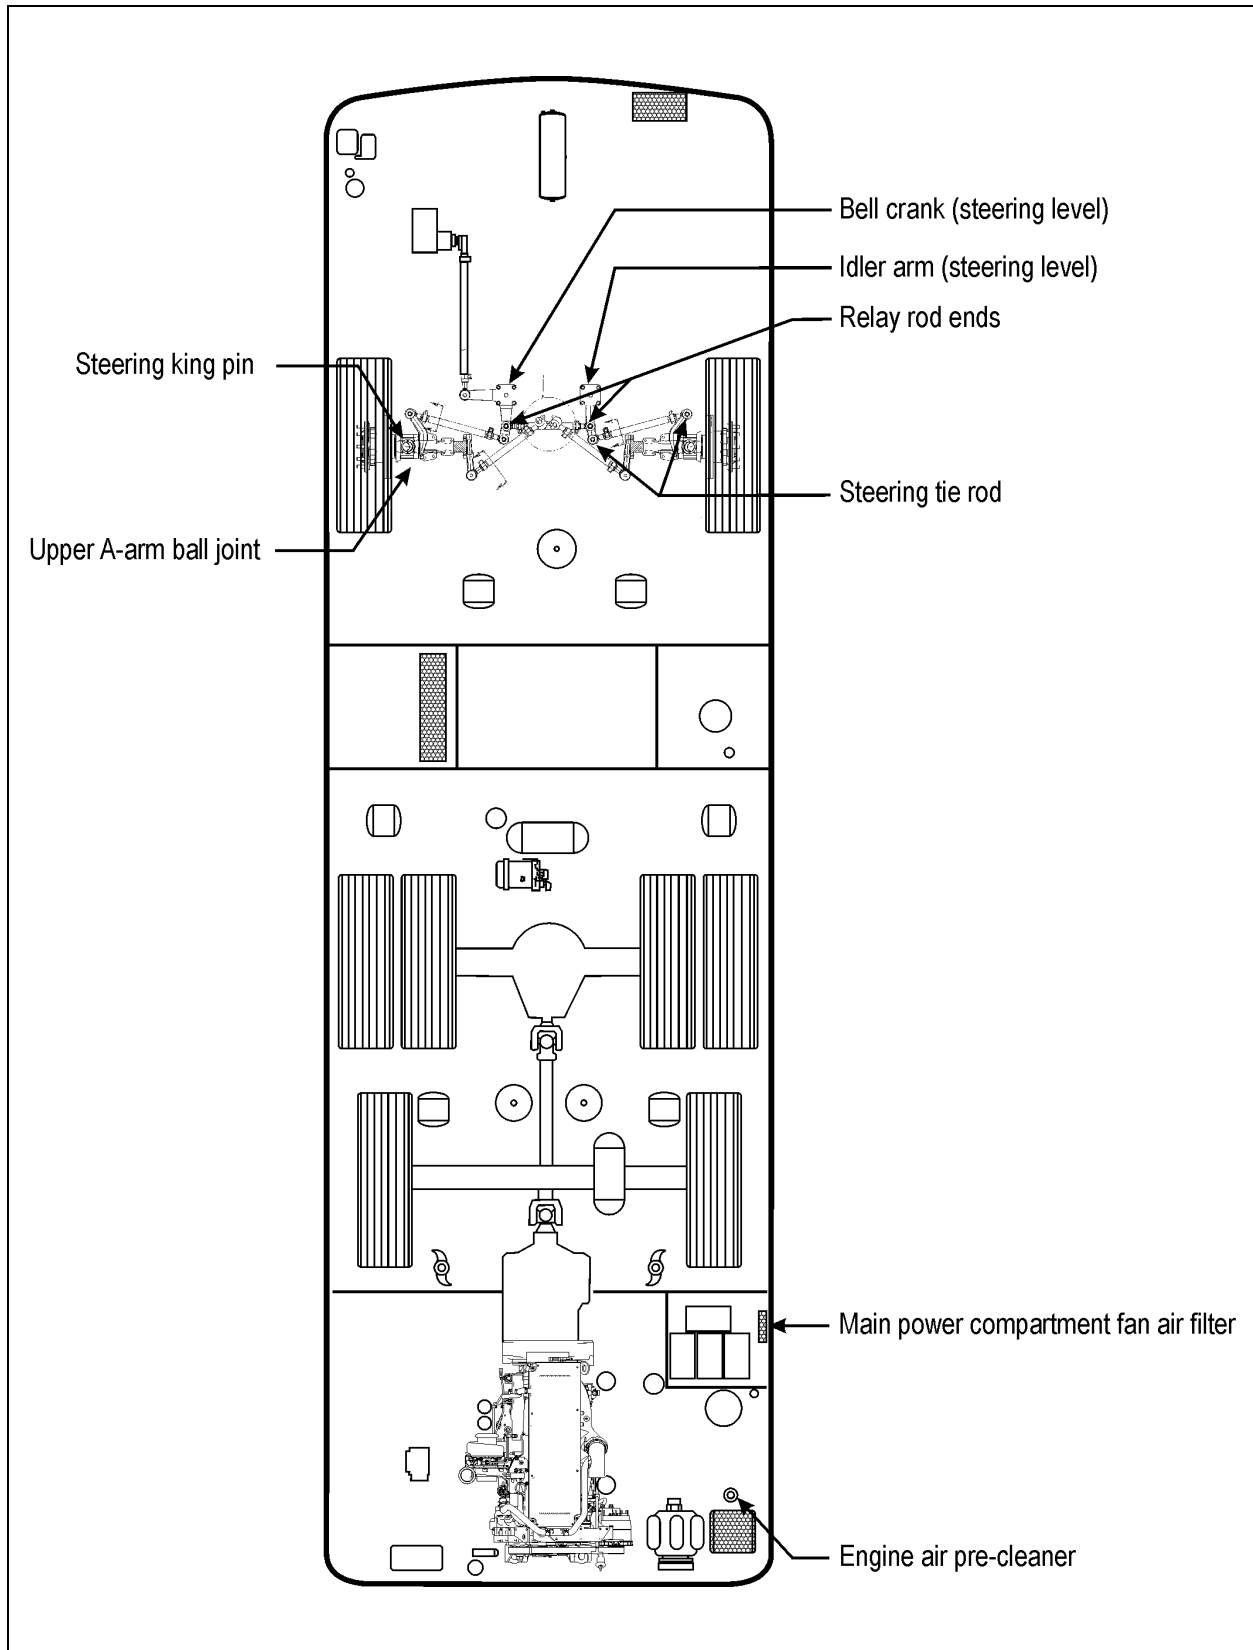

FIGURE 3: LUBRICATION AND SERVICING POINTS ON INDEPENDENT FRONT SUSPENSION VEHICLES (TYPICAL) 24038
- FIGURE 3: LUBRICATION AND SERVICING POINTS ON INDEPENDENT FRONT SUSPENSION VEHICLES (TYPICAL)7